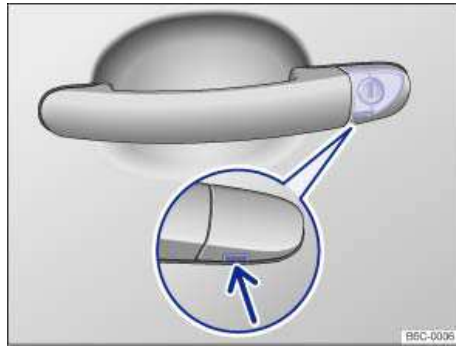

Fig. 182 Door handle on driver door: Concealed lock cylinder.
- Insert the key bit from below into the opening of the cover cap on the driver door ⇒ fig. 182 (arrow) and lift the cover cap off. Grasping the door handle and pulling slightly makes it easier to remove the cap.